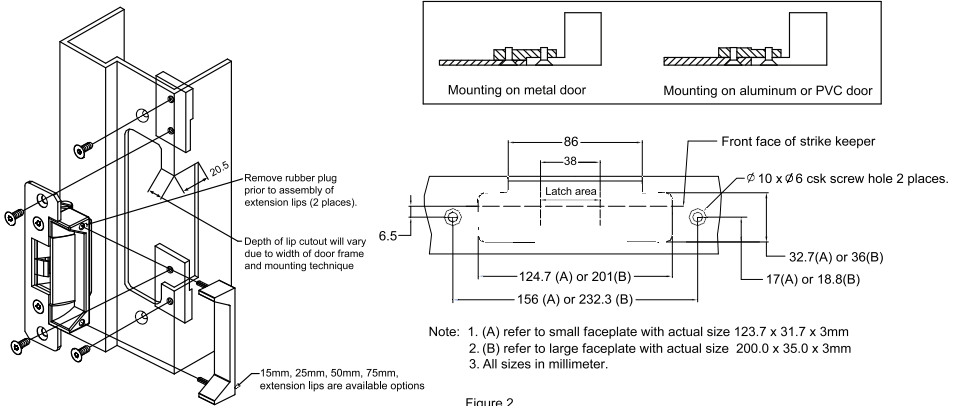

Figure 2
- 1 For aluminum or metal door frame brackets are supplied for assembly, refer to Figure 2. For timber door frame refer to Figure 3. mark and drill the hole sizes as indicated on Figure 2 and Figure 3.